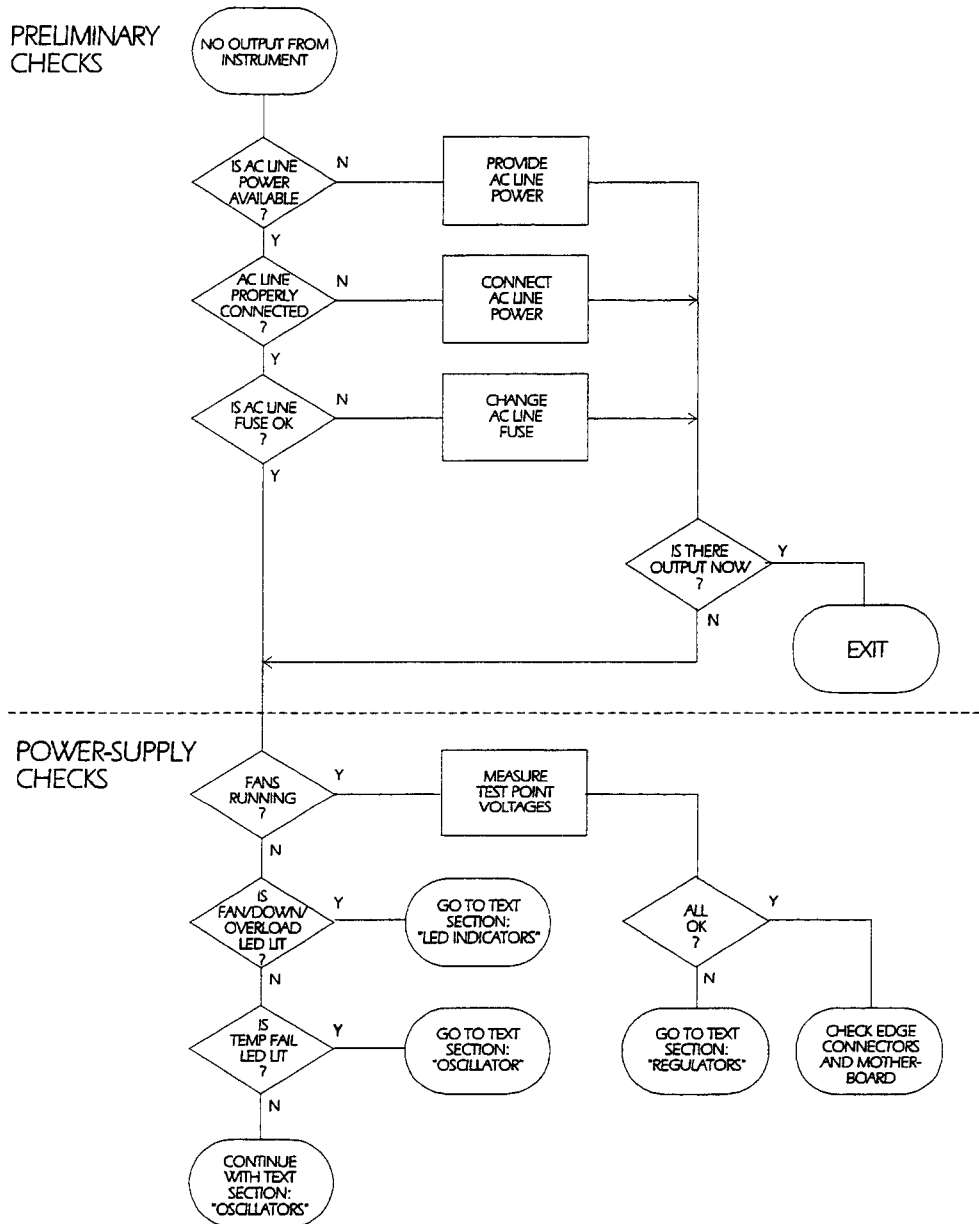
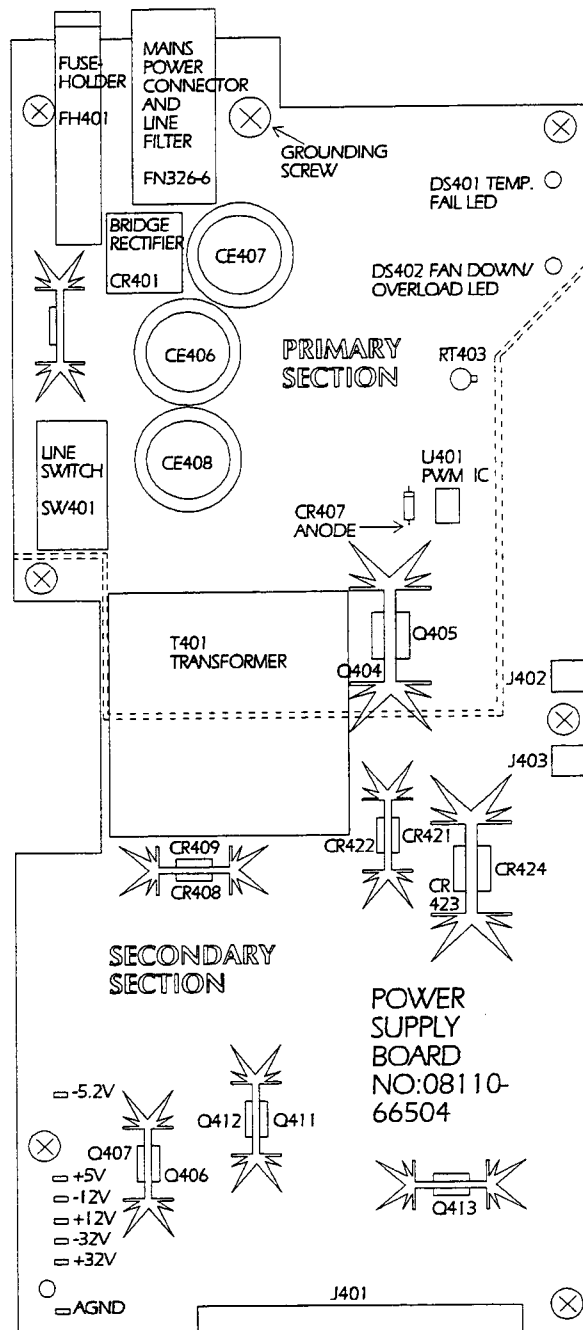

Figure 4-3. getting Started with Troubleshooting the HP 8110A
Figure 4-4. The Power Supply Board
There could be a number of reasons why HP 8110A shows no signs of operating. If the instrument appears to be dead, proceed as indicated in Figure 4-3. The figure is divided into two parts: the checks that you should perform if the instrument appears to be “dead” are above the dotted line. If these tests do not solve the problem, continue with the tests below the dotted-line. If these tests do not lead to a section containing information that does solve the problem, look in the text in this chapter for a heading that might apply to the fault.
Figure 4-4 gives a general view of the Power Supply Board, showing voltage test points at the lower left corner.
Some voltages on the Primary Section of the Power Supply are dangerous and can kill. For your own safety do not touch these parts. Using an isolating transformer may prevent these voltages from being fatal, but electrical shocks from the unit can cause serious discomfort, especially on capacitors C406, C407 and C408 (see Figure 4-4 for their position).
1. Check that neither of the two LEDs are illuminated (DS401 and DS402 in Figure 4-4). This situation is covered by the flowchart in Figure 4-3
2. Connect the Scope to CR407 anode (see Figure 4-4 for connexion point).
If there are no waveforms, and LEDs DS401 and DS402 (Figure 4-4) are not illuminated, check at CR401+ for 100 V - 360 V DC, depending on mains input voltage. If this voltage is present, switch the power OFF and perform continuity checks on FETs Q404 and Q405, plus forward and reverse resistance of diode CR407. If the FETs read short-circuit they are faulty.
4. Connect the Scope to CR407 anode (see Figure 4-4 for connexion point).